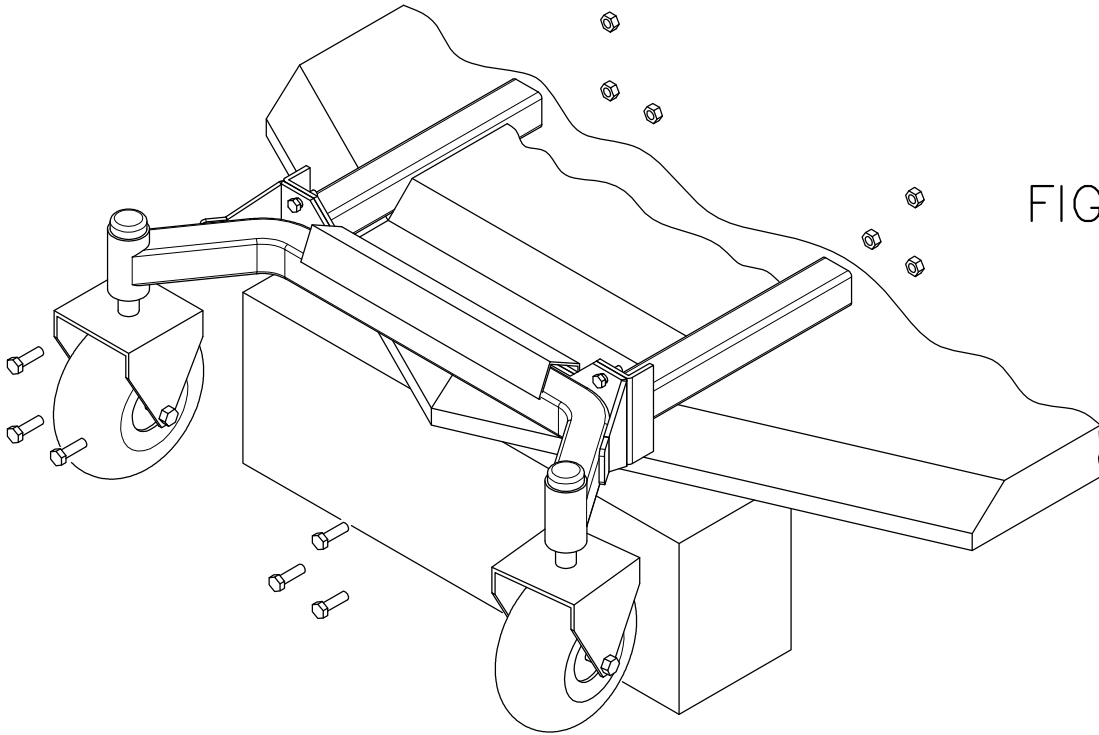

FIGURE 11
- AS SHOWN IN FIGURE 11, LIFT AND SUPPORT THE FRONT OF THE MOWER
- REMOVE (6) BOLTS THAT SECURE THE FRONT WHEEL ASSEMBLY